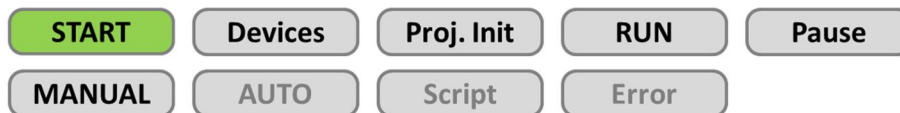

Figure 3: Window with the User Interface when the HLCP starts.
When the HLCP starts, the user interface (UI) as presented in figure 3 will open. Until the "START" button has been clicked, no further button will be active. The "START" button will effectively launch the "*GUS_Open_App*" command.